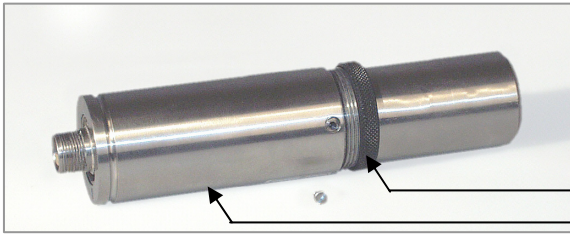

Figure 11
2. Unscrew the black securing ring, refer Figure 11.
3. Remove the cylindrical body by pulling upwards towards the sensor receptacle, refer Figure 11.